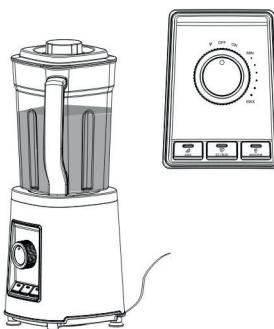

Fig 5
- Turn the function selector (14) to ON and select the required program or optional variable setting. The mixing process starts. Fig 5.